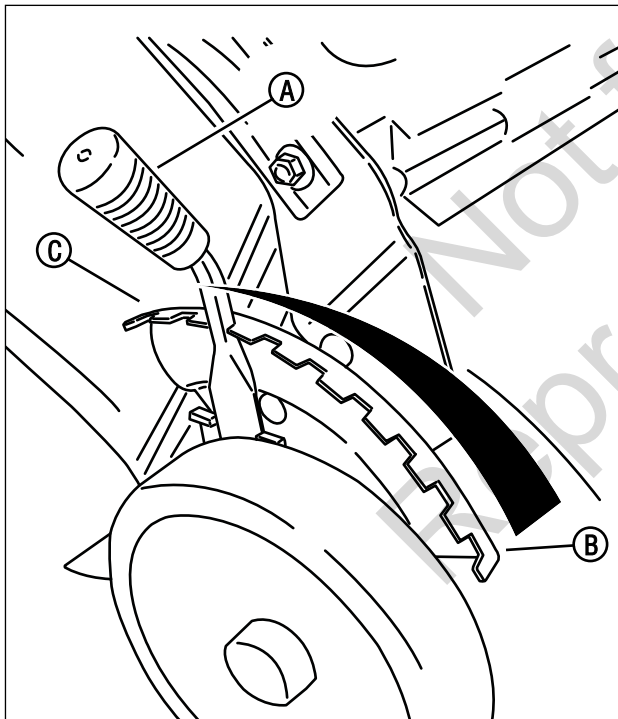
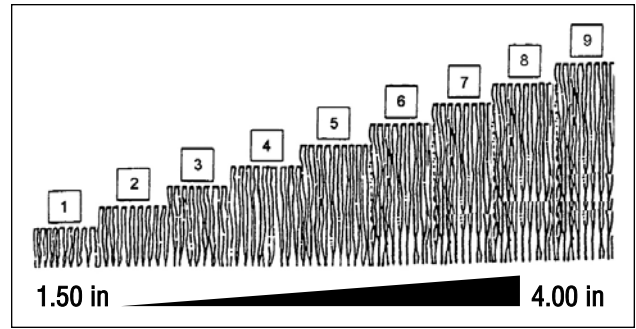

Figure 6: Adjusting cutting height
Figure 7: Cutting height settings (approximate)
1. Pull the height adjusting lever (**A, Figure 6**) outward, and move to the desired cutting height. The highest cutting position is Notch 9 (**B; also see Figure 7**). The lowest cutting position is Notch 1 (**C**).